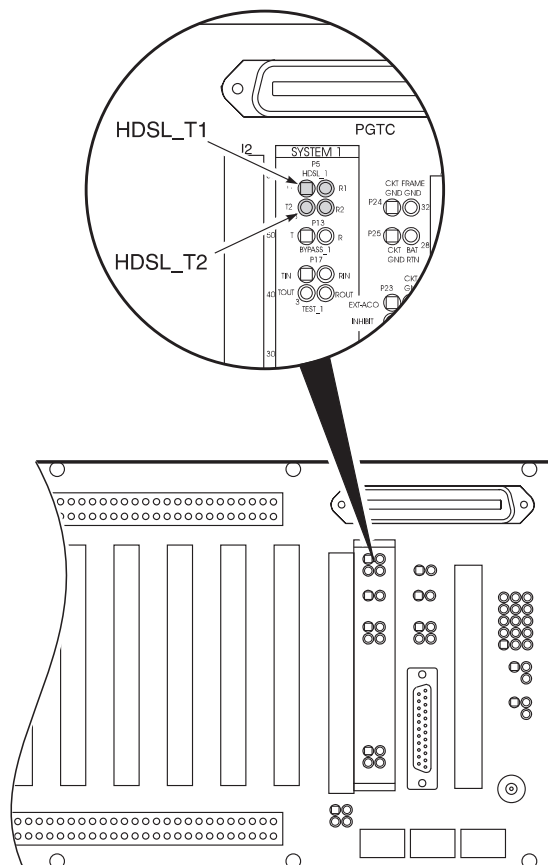

Figure 6. Connecting the HDSL Lines
8.3 HDSL Lines. Connect the HDSL lines (Figure 6):